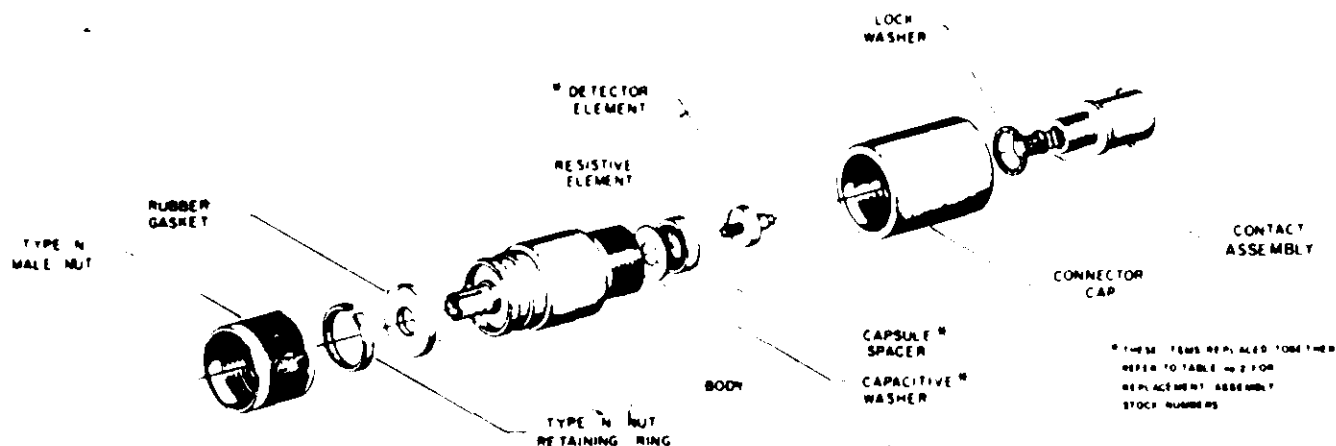

Figure 3 Model 423A Assembly
The special detector element (See Figure 3) contained in the Detector can be damaged in handling, removal, or installation if certain precautions are not taken. The handling precautions which follow should be read before performance of any operation with the detector element when it is out of either the housing or the detector element shipping container.
Parts mentioned in the following procedure are identified in Figure 3.
**Procedure.** Parts mentioned in the following procedure are identified in Figures 3 and 4